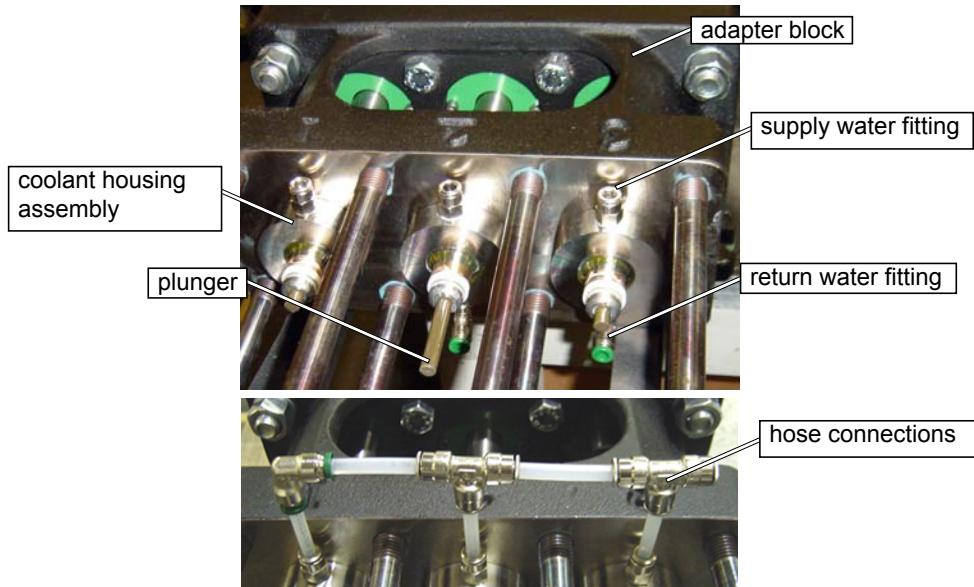

Figure 6-42
3. Slide the **coolant housing assembly** over the **plunger** until it is fully engaged into the bore in the **adapter block** (Figure 6-42). Note the plunger is not rigidly held and can be moved slightly for alignment with the coolant housing assembly.